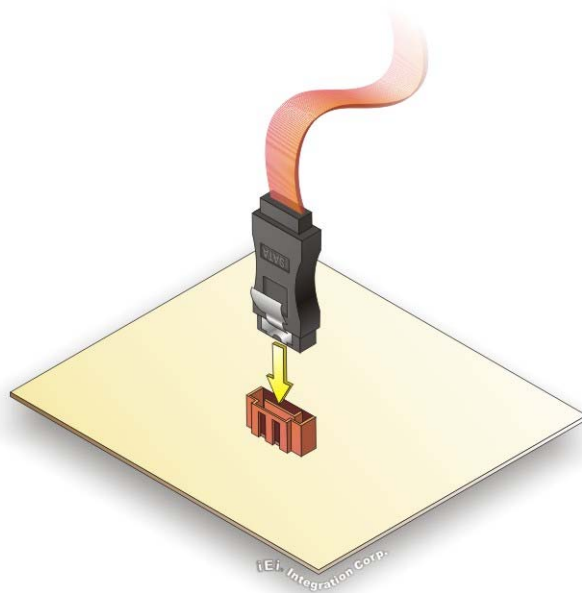

Figure 4-12: SATA Drive Cable Connection
Step 2: Insert the cable connector. Insert the cable connector into the on-board SATA drive connector until it clips into place. See **Figure 4-12**.